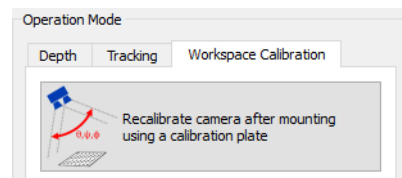

Figure 31: Operation mode: Workplace calibration, in NxView
5. Change the operation mode (to the right) by clicking the **Workplace calibration** tab, see figure 31
6. Click the **Recalibrate camera after mounting using a calibration plate** option, see figure 31